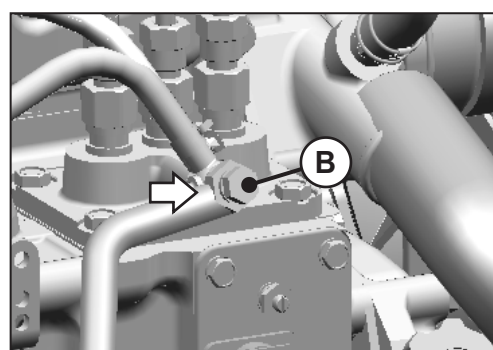

Fig. 5.3b
4. Loosen the vent plug (B, fig. 5.3b) of FIP and allow the air to flow out from the system.
5. Tighten the vent plug (B, fig. 5.3b) after bubble free fuel flows from the return valve.